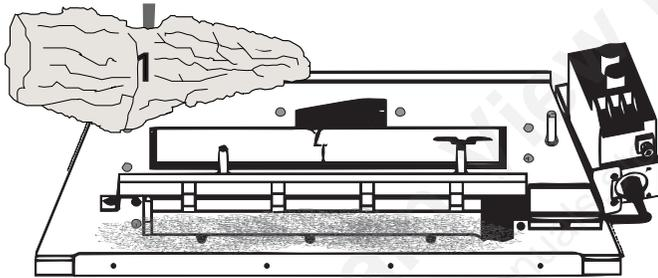

Figure 5.20 - Log #1 Placement
2. Place Log #1 on the left-hand side of the burner assembly by positioning the pin locator hole onto the log pin on the left-hand side of the burner. When in place, make sure the flat back side of the log is flush against the back of the burner assembly. See Figure 5.20.